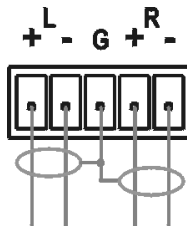

Figure 4: Wiring a Balanced Stereo Audio Input/Output
- A balanced stereo audio input/output connection (see Figure 4)
Figure 4 illustrates how to wire a balanced input/output connection.